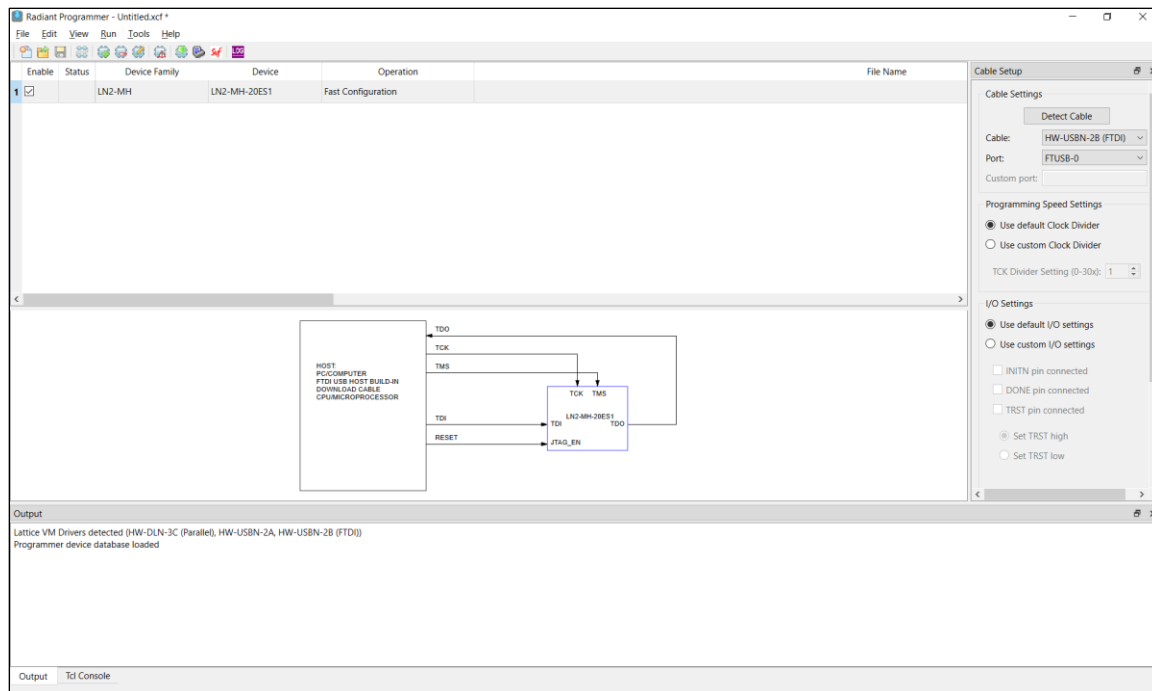

Figure 9.1. Radiant Programmer – Main Window (with Mach-N2 Device)
5. The Radiant Programmer main window opens listing the device as found in a scan if applicable (Figure 9.1).